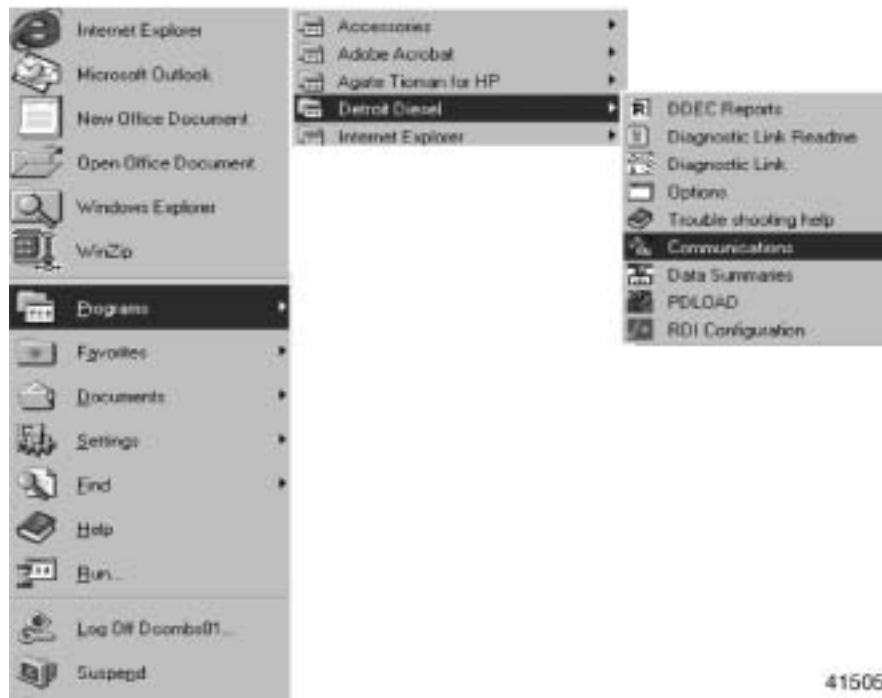

Figure 14. Select Communications
4. Select Communications (see Figure 14).